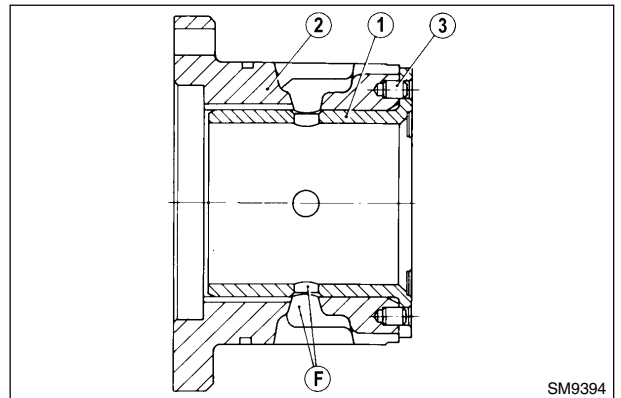

Fig. 5-41
- remove dowels (3, fig. 5-41) from the housing or, in case of necessity, cut them flat with the face;
- press the new bushes into the housing so that, after pressing, lube holes (F) are coaxial with a maximum run-out of 2.5 mm (0.984 in).
- drill two new holes for dowels (3) as far as possible from the lube holes. Press the dowels making sure that they don't protrude over the bush surface.